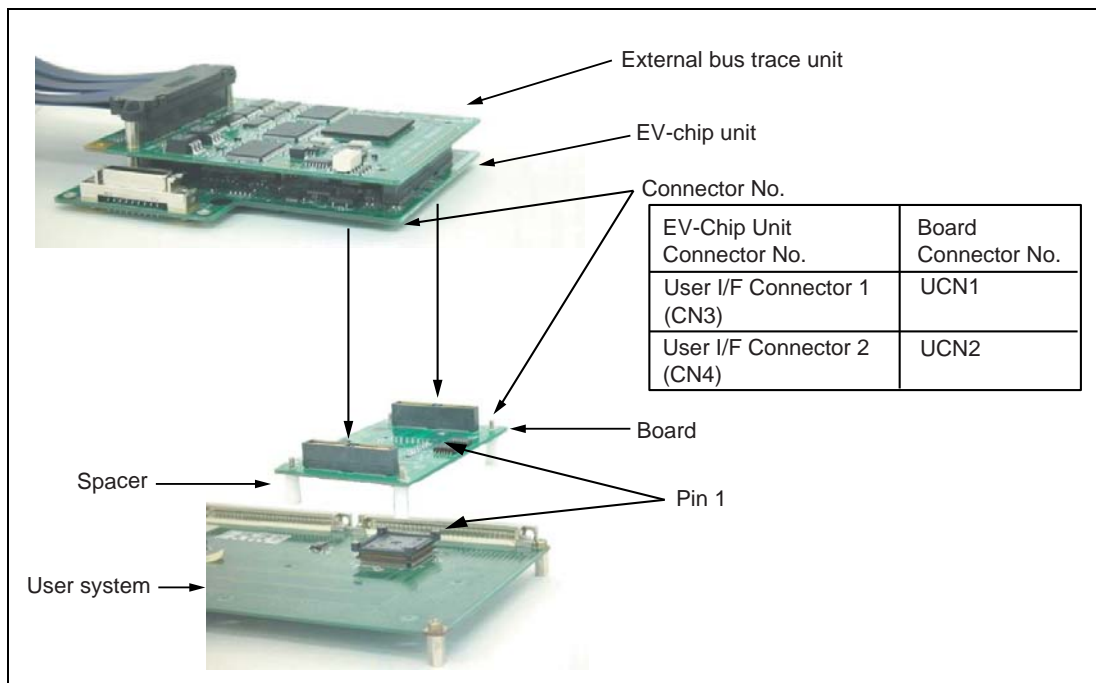

Figure 3 Connecting User System Interface Board to EV-Chip Unit
2. Align the connectors on the board with those on the EV-chip unit according to their numbers (figure 3).